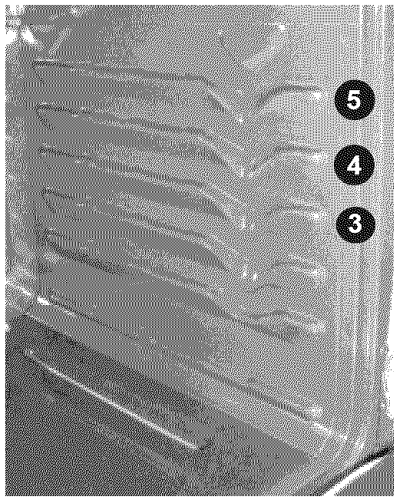

Fig. 1
- Place the insert on the broil pan, then place the food on the insert (See Fig. 1; some models). **DO NOT** use the broil pan without the insert or cover the insert with **aluminum foil**. The exposed fat could ignite.
Broil Rack Position Table (Refer to Fig. 1)